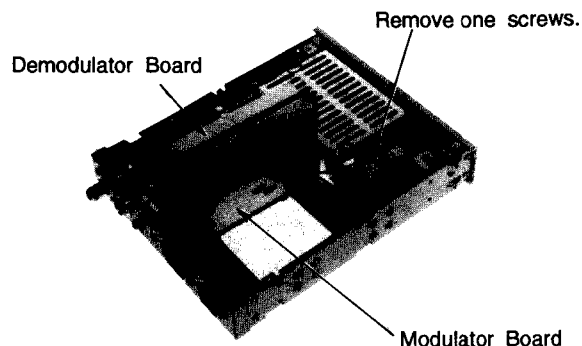

Fig. 2-2-4
- Referring to Fig. 2-2-4, turn the Mother Ass'y then pull the Modulator Board Ass'y and the Demodulator Board Ass'y out from the connectors on the Mother Board.